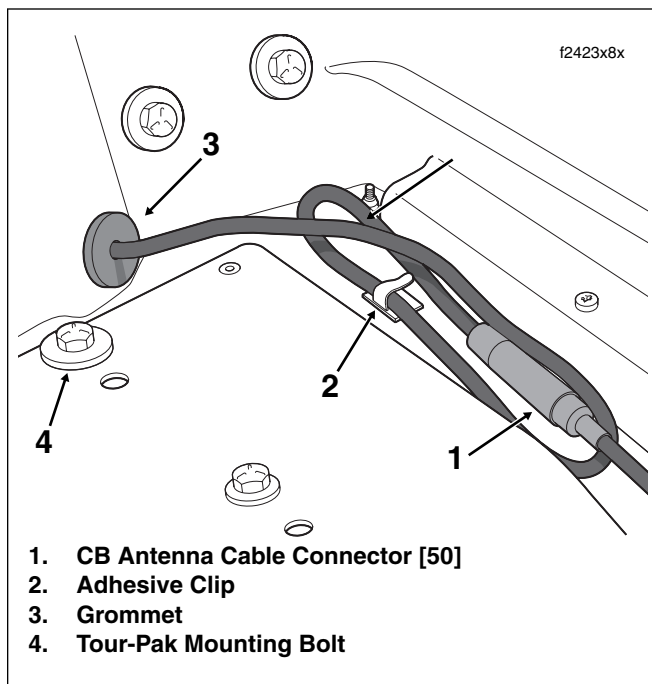

Figure 2-147. Disconnect CB Antenna Cable Connector
9. Moving to right side of motorcycle, disconnect CB antenna cable connector [50]. Release cable from two adhesive clips at bottom of Tour-Pak. See Figure 2-147.
8. Connect CB antenna cable connector [50]. Capture cable in two adhesive clips at bottom of Tour-Pak. See Figure 2-147.